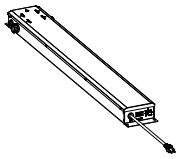

Figure 1
- 1: Take the driver out of the box. (Figure 1)